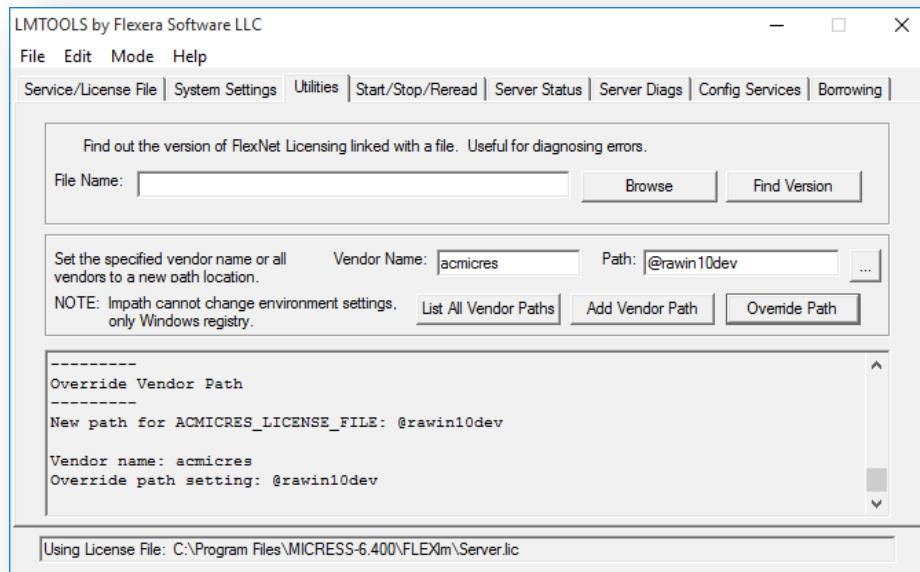
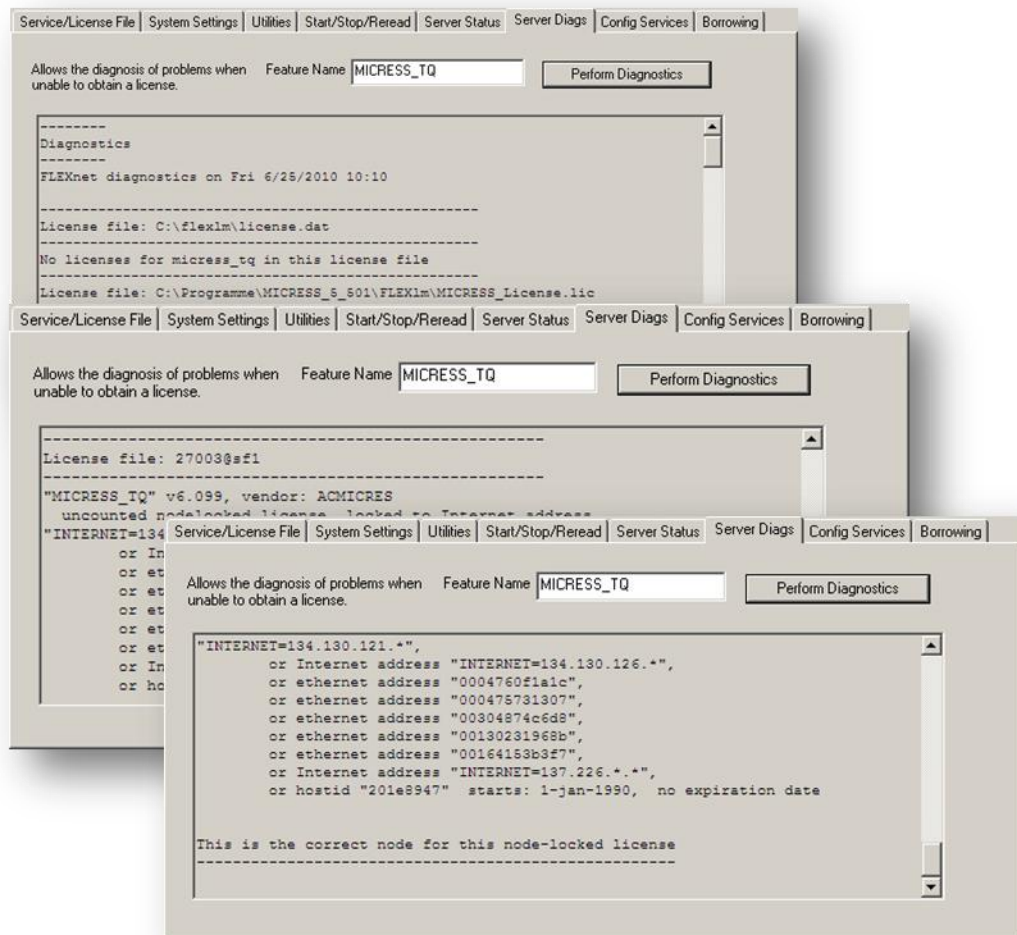

Figure 3.5 The vendor path operations 'Utilities'
Figure 3.6 Perform diagnostics to find the correct server/license for a specific feature
To specify different file locations, make sure that a fully qualified path is specified. Once the paths are set, please click on 'use services', optional 'Start Server at power up' and then 'Save Service'. Switch to the 'Start/Stop/Reread' tab, pick the service you have just saved and start it. For verification, it is useful to click on the 'Server Diags' and to check if the server works correctly, see Figure 3.5 and Figure 3.6.
- **Utilities:** the utilities menu, see Figure 3.5, provides a valuable tool for both the license server and also for hooking the clients to the license server.
- **Server Diags** (= Diagnostics) allows to check whether a certain feature is licensed or the server works. The different paths to various license files (see also 'utilities' menu in Figure 3.5) are scanned for valid licenses for this particular feature. Availability of a valid license for the feature may thus be checked. All input is case sensitive. A typical output is shown in Figure 3.6 .